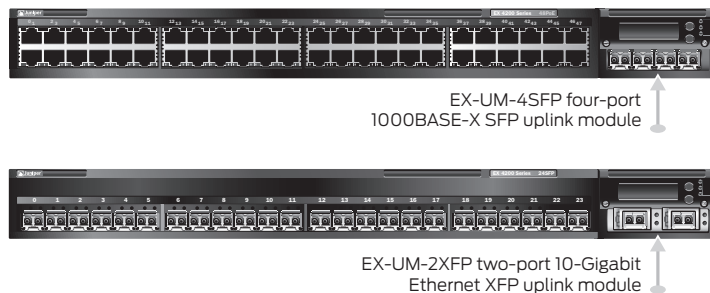

Figure 3: Virtual Chassis port on an EX4200 switch front panel
Figure 3 shows the uplink module in the front panel of an EX4200 switch.
For example, port number 0/1/3 indicates the fourth port (3) on the uplink module (1) on the first member (0) in a Virtual Chassis configuration (please see Figure 3).